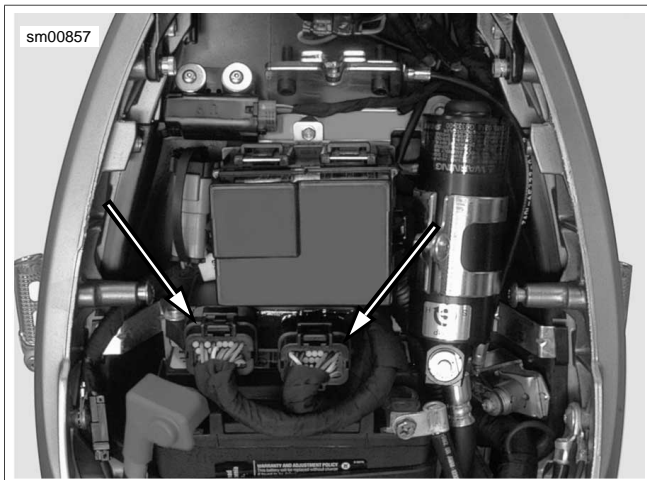

Figure 4-7. Electronic Control Module (ECM): Lightning (Typical)
3. See Figure 4-7. Disconnect ECM black connector [10] and gray connector [11].
2. See Figure 4-7. Attach ECM connectors [10] and [11].